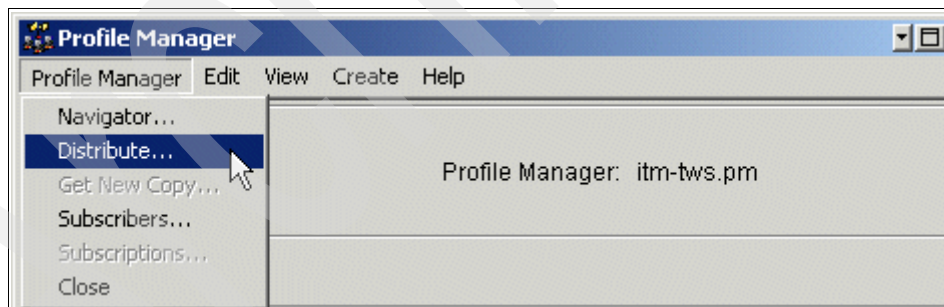

Figure 9-138 Starting distribution of selected profile to selected subscriber
4. Select **Profile Manager** →, **Distribute...** as shown in Figure 9-138.